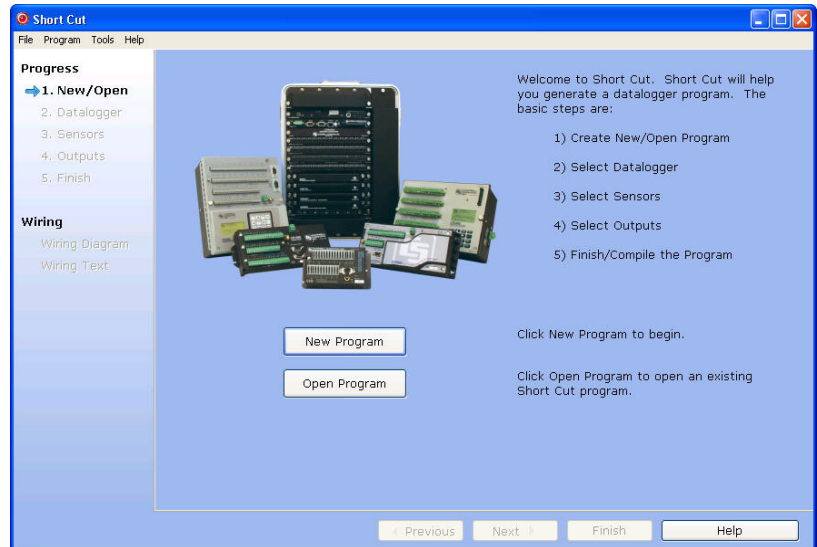

*FIGURE 4-4. HMP60 and 41303-5A Radiation Shield*
3. Tighten the mounting clamp until it lightly grips the probe body (see Figure 4-4).
5. Tighten the collar until it securely grips the probe (see Figure 4-4).
The HMP60 must be housed inside a solar radiation shield when used in the field. The HMP60 is typically housed in the 41303-5A 6-Plate Radiation Shield (Figures 4-2 and 4-3 in Section 4, *Quickstart*). The HMP60 is held within the 41303-5A by a mounting clamp (Figure 4-4 in Section 4, *Quickstart*).